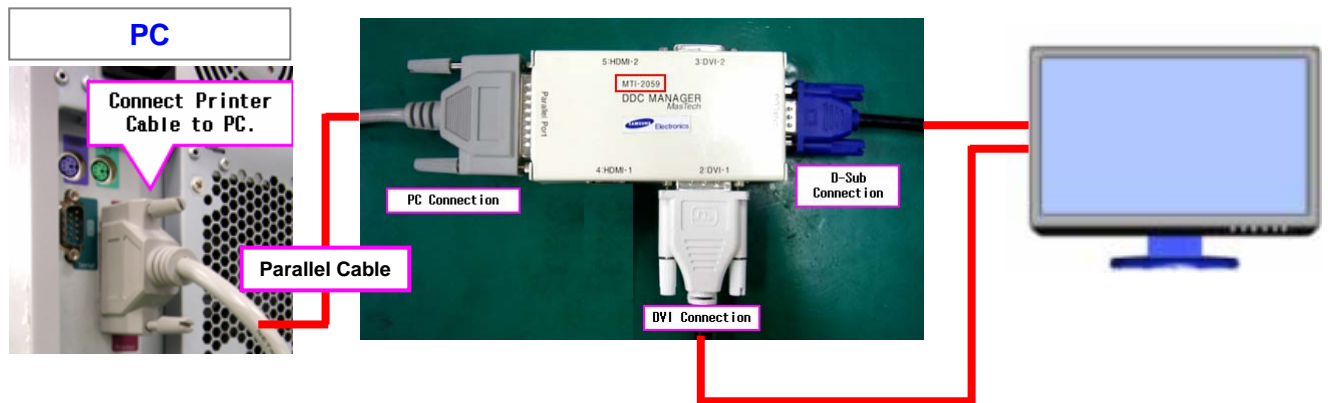

Figure 1.
2. Receive/Download the proper DDC file for the model from HQ quality control department. Install the below jig (Figure 1) and enter the data.